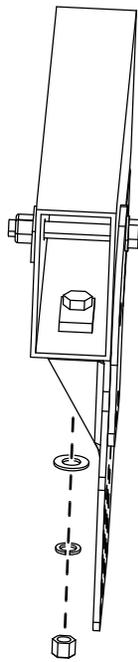

Figure 9
6. Loosely secure the sideplates to each side of the vehicle frame using the previously installed bolt and shim, washer (5/8 inch), split lockwasher (5/8 inch), and locknut (5/8 inch) as shown in Figure 9.